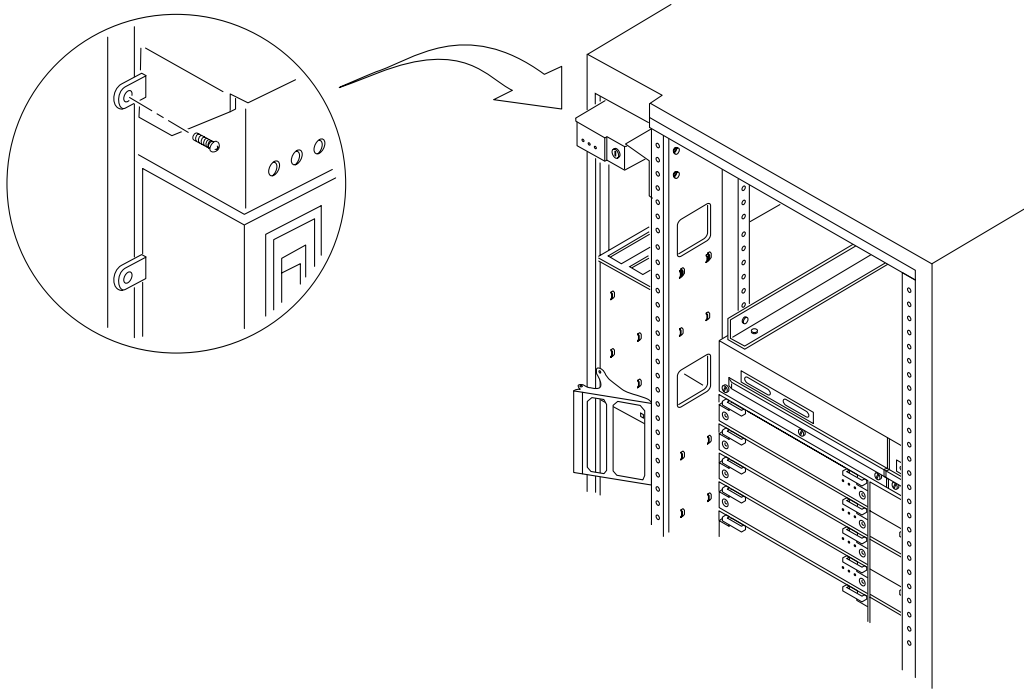

FIGURE E-10 Removing the Screw from the Left Pillar
- 13. Remove the screw on the left side that attaches the key switch assembly to the cabinet pillar (FIGURE E-10).**
- 3. Replace the screw on the left side that attaches the key switch assembly to the cabinet pillar (FIGURE E-10).**